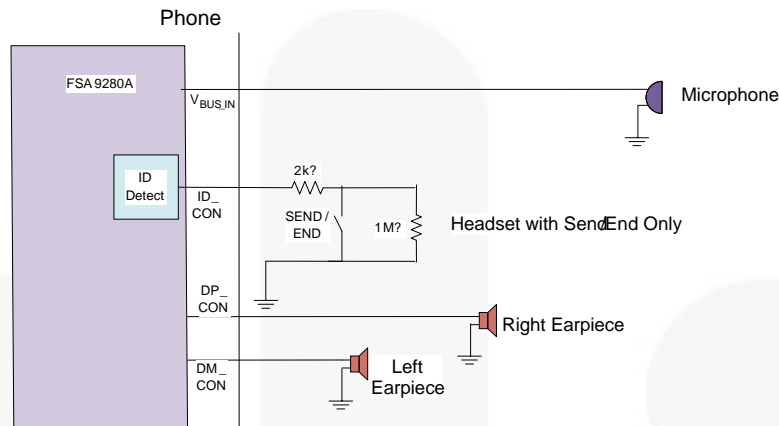
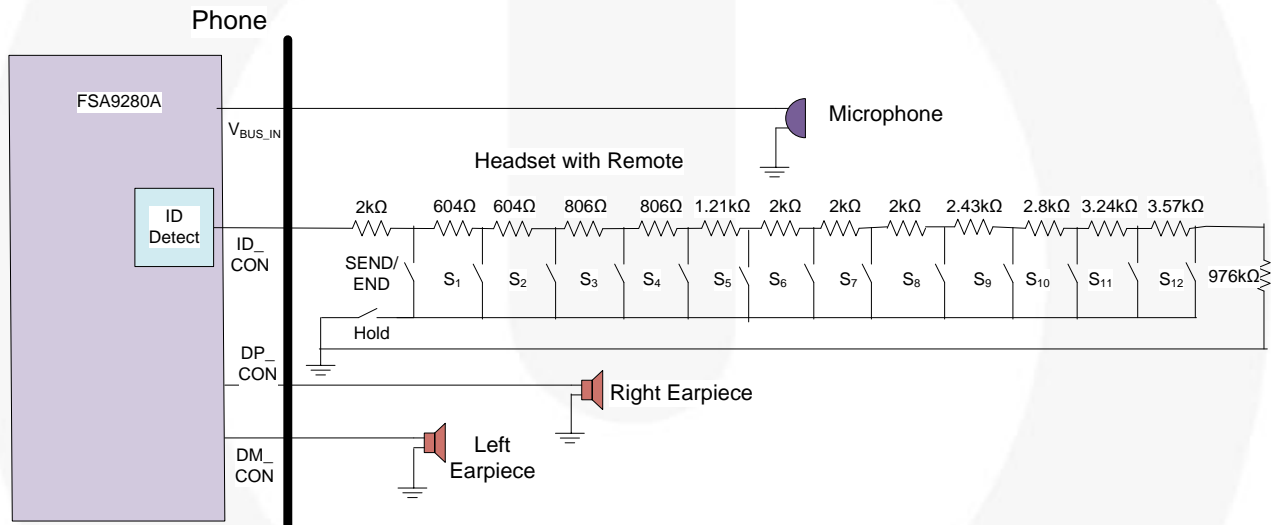

Figure 12. Audio Accessory with Just Send/End Button (1% or 5% Resistors)
Figure 13. Audio Accessory with Full Wired Remote Control (1% Resistors)
- These resistor values are created by multiple standard resistor values in series to form the button presses on the wired remote (see Figure 12).
Audio accessories are detected when the ID\_CON pin resistance to GND is approximately 1MΩ. Configurations for this audio accessory shown in Figure 12 and Figure 13.